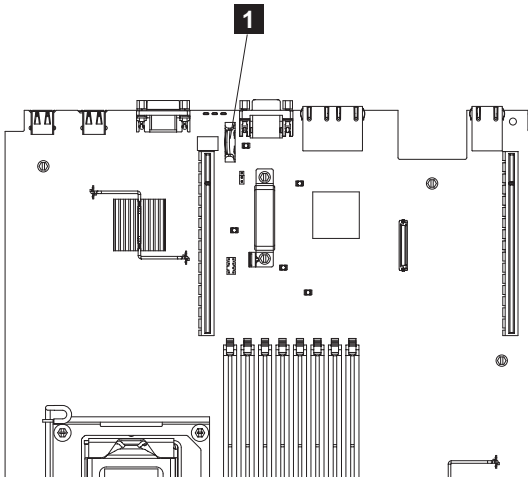

Figure 133. Location of the SAN Volume Controller 2145-CF8 CMOS battery holder
7. Locate the battery **1** on the system board. Figure 133 shows the location of the battery.